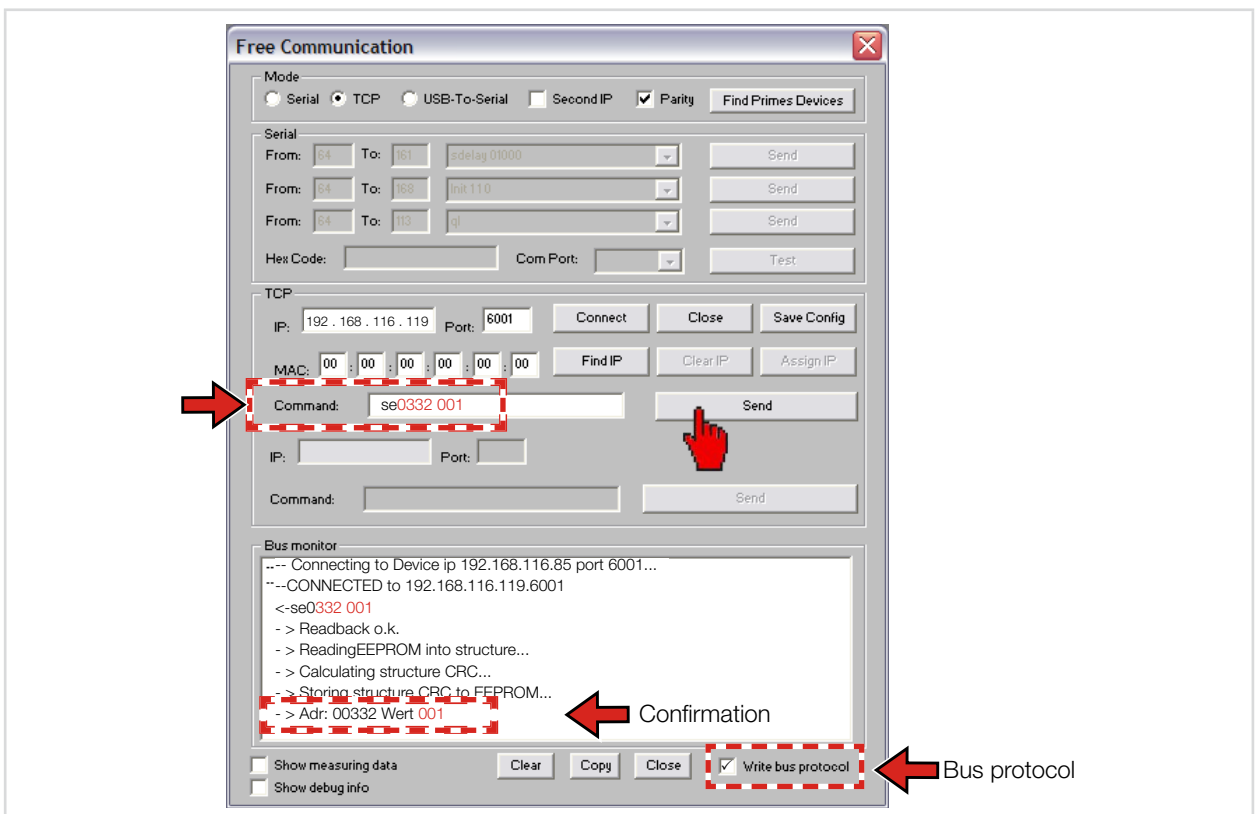

Fig. 9.4: Enable DHCP in the Free Communication dialog box
8. Click on the **Send** button and wait for the confirmation on the **Bus monitor** (see Fig. 9.4 on page 41 „- > Adr:0332 Wert: 001“)